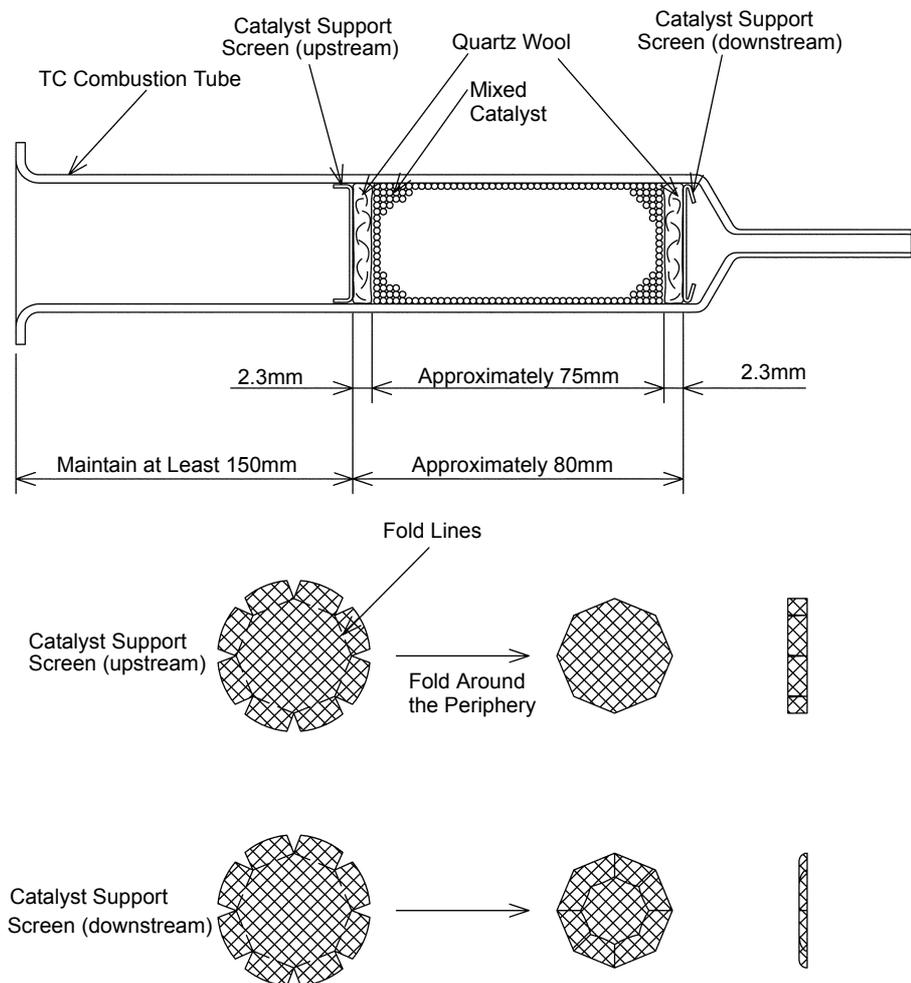

Figure 5.6 • Filling the TC Combustion Tube with Catalyst
The TC combustion tube is filled with the catalyst provided, as shown in “Figure 5.6 • Filling the TC Combustion Tube with Catalyst”.
4. Fold the catalyst support screens as shown in “Figure 5.6 • Filling the TC Combustion Tube with Catalyst”, and insert them into the TC combustion tube.